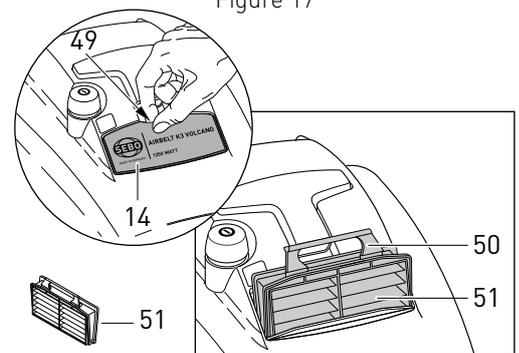

Figure 18
## Changing the Exhaust Filter - Figure 18
The exhaust filter (51) needs to be changed when it becomes extremely dirty or clogged with dust, or after approximately 10 to 20 filter bags have been used. To change the exhaust filter, set the canister flat on the floor as shown in figure 18. Remove the printed cover on top of the machine (14) by lifting the catch (49) in the upholstery nozzle recess (see inset, figure 18). Pull out the filter using the handle (50) and fit the new filter into the same position. The filter handle should point toward the upholstery nozzle when it is folded down. Fit the tabs on the bottom of the cover (14) into the grooves and snap the cover down firmly.